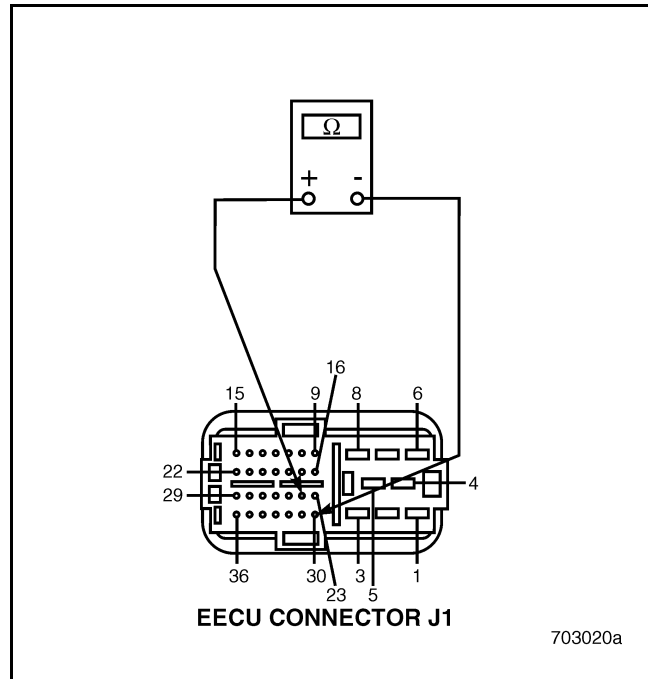

Figure 596
3. Measure the resistance between EECU connector J1 pin 24 and EECU connector J1 pin 30 (see Figure 596).